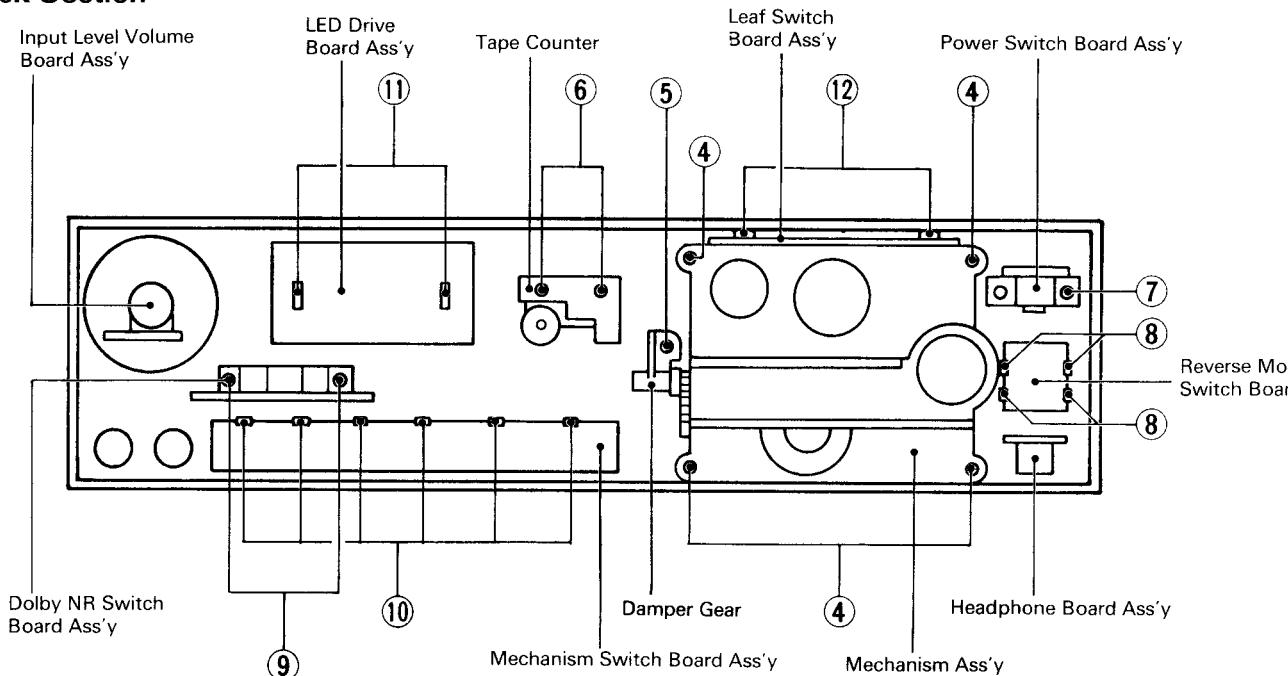

Fig. 6-3
2. Remove four screws (4) retaining the mechanism ass'y. (Fig. 6-3)
4. Remove two screws (12) retaining the leaf switch board ass'y to mechanism ass'y. (Fig. 6-3)
1. Remove one screw (5) from damper gear. (Fig. 6-3)
1. Remove two screws (6) retaining the tape counter. (Fig. 6-3)
1. Pull out the volume knob. (Fig. 6-3)
Remove four pawls (8) retaining reverse mode switch board ass'y. (Fig. 6-3)
1. Remove two screws (9) from the Dolby NR swich. (Fig. 6-3)
Remove six pawls (10) retaining the mechanism switch board ass'y. (Fig. 6-3)